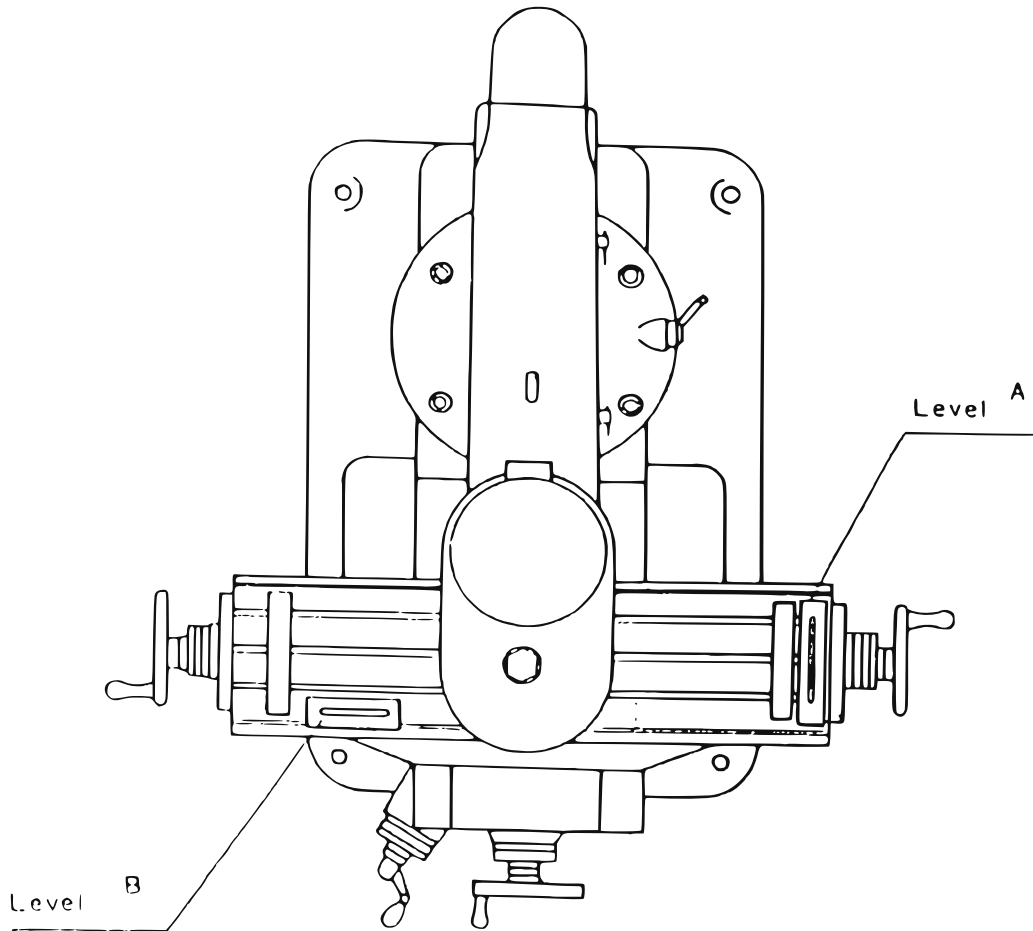

Figure 3-10: Level positions on the table
- 1 Place the levels on the table as shown in Figure 3-10.